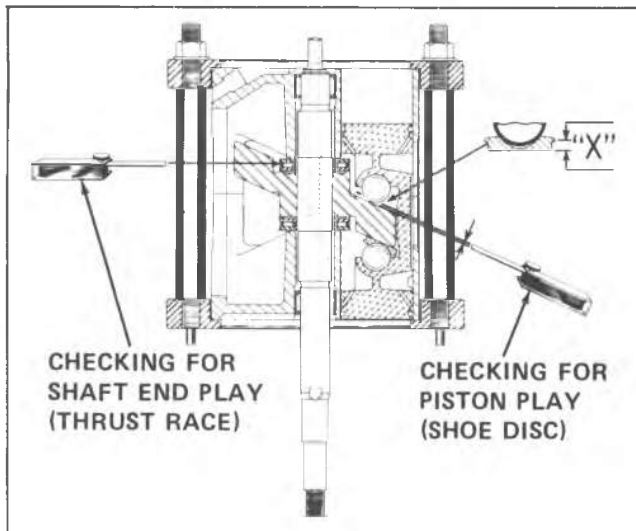

Fig. 44--Checking Piston and Shaft End Play
An alternate method of selecting a proper race is to use Gage Set J-9661-01, selecting a suitable feeler gage leaf until the result is a 4 to 8 ounce pull on the scale between the rear thrust bearing and upper (or outer rear) thrust race (Fig. 44). If the pull is just less than 4 ounces, add .0005" to the thickness of the feeler stock used to measure the clearance. If the pull on the scale reads just over 8 ounces, then subtract .0005" from the thickness of the feeler stock. **Select a race TWO (2) FULL SIZES LARGER than feeler gage thickness** (If feeler gage is .007", select a No. 9 or 090 race).
21. **Select a thrust race with a "number" corresponding to TWO (2) FULL SIZES LARGER than Dial Indicator or feeler gage measurement of the amount of end play shown.** (If measurement is .007", select a No. 9 or 090 race). **Place thrust race in right-hand slot at bottom center of Parts Tray J-9402.**